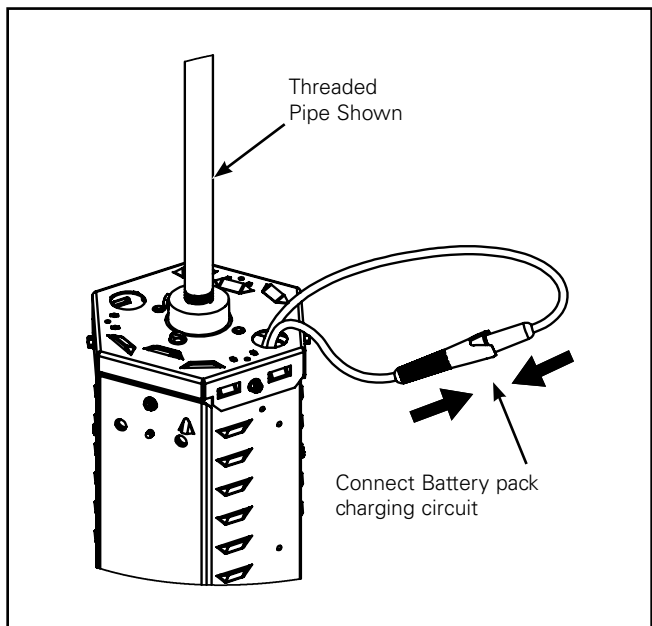

Figure 3.
4. Connect wires coming out of KO hole and push wires back in to fixture. (Figure 3).